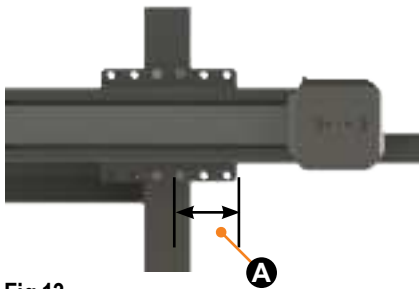
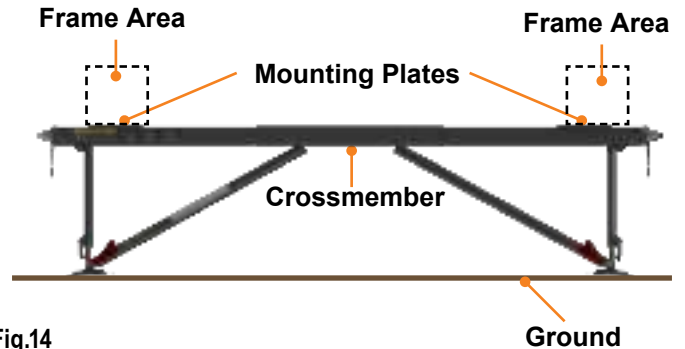

Fig.13
Fig.14
**NOTE:** Figure 13 shows Quick Drop Stabilizer upside down, as if the looking from the ground up underneath trailer. Figure 14 shows Quick Drop Stabilizer from a horizontal view to provide clarity.